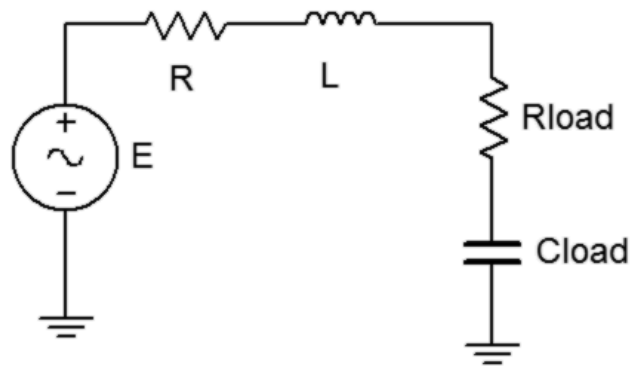

Figure 12.1
1. Build the circuit of figure 12.1 using  $R=1\text{ k}\Omega$  and  $L=10\text{ mH}$ , but leaving off the load components. Replace the generator with a  $50\ \Omega$  resistor and determine the effective source impedance at  $10\text{ kHz}$  using the impedance meter. Record this value in Table 12.1, including both magnitude and phase. Determine the load impedance which should achieve maximum power transfer according to the theorem and record in Table 12.1. Finally, determine values for  $R_{\text{load}}$  and  $C_{\text{load}}$  to achieve this load impedance and record in Table 12.1, also copying the resistance value to the first  $R_{\text{load}}$  entry of Table 12.2.